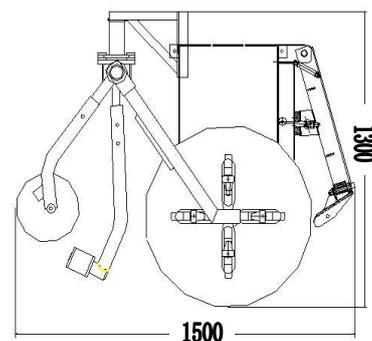

Fig 9
**Fig 9** shows the minimum distance (cm) from walls after assembly this auxiliary device. Please choose the right place to install it. And note keep at least 500mm from all direction for operation.